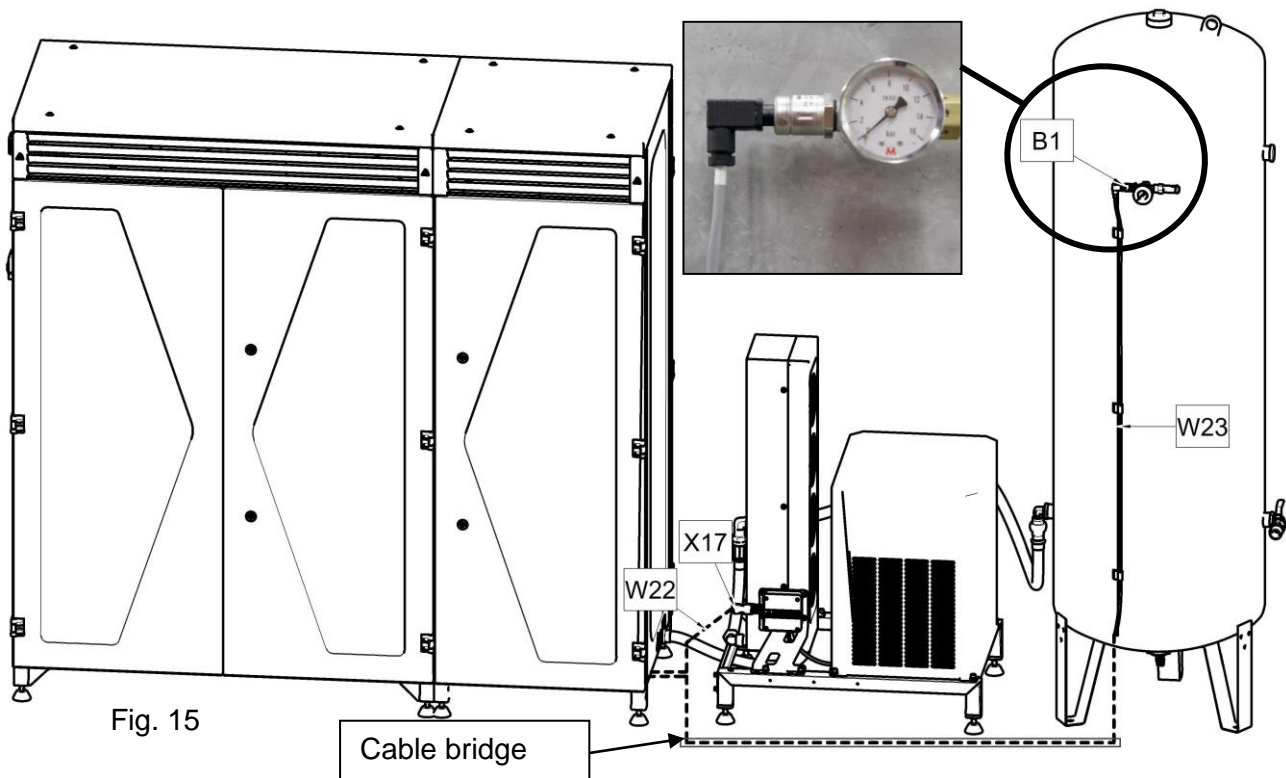

Fig.16
- Connect the power cord conductors to the power terminals L1, L2, L3, N/BU/, PE/GNYE/. (Fig. 16).